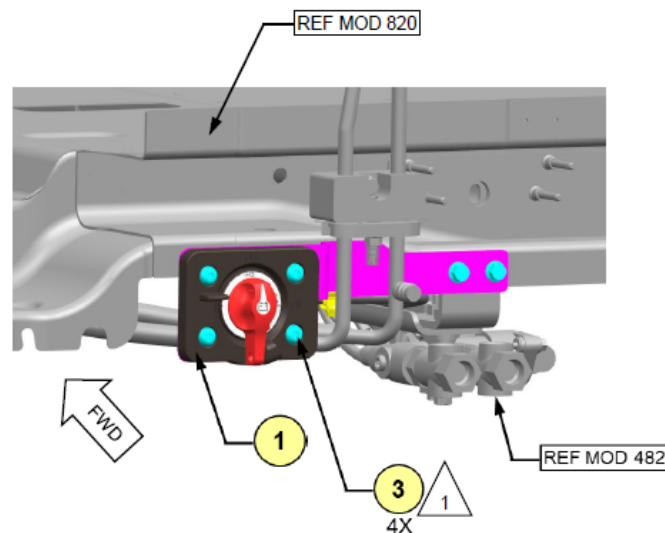

Fig. 20, Battery Cutoff Switch Installed on Bracket
11. Install the battery cutoff switch on the bracket as shown in **Fig. 20** using four screws.